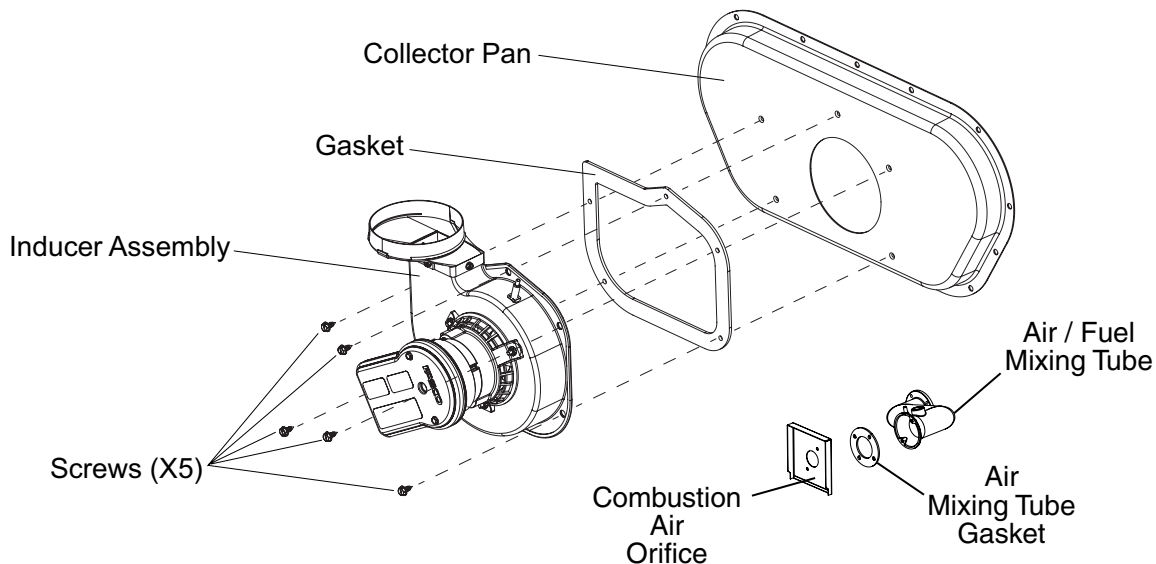

Figure 1. Removal of Inducer Assembly
3. Remove the five screws holding the inducer motor assembly to the collector box. See Figure 1.